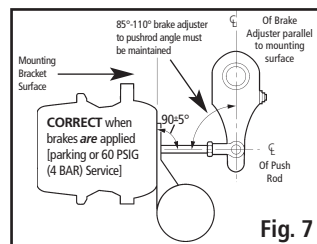

Fig. 7
7. Measure the pushrod length again. Subtract the pushrod stroke length measurement from Step #2 from the pushrod stroke measurement obtained in this step. (Fig. 7).